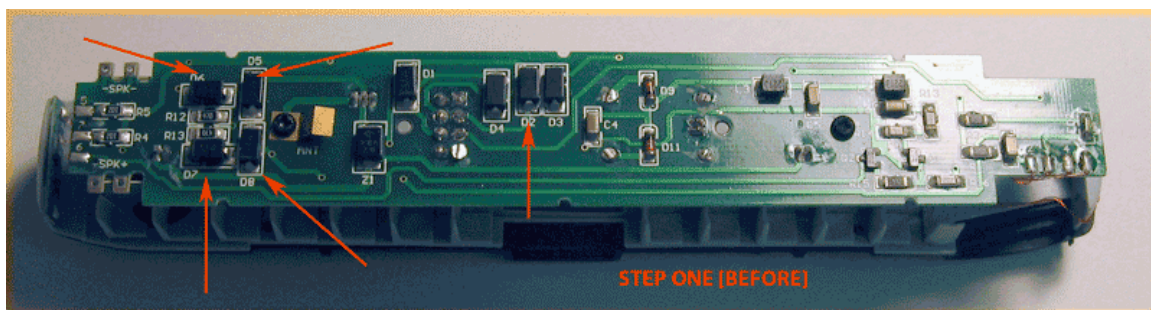

Figure 1 – Top of Circuit Board
1. Remove the surface mounted components labeled D5, D6, D7 and D8 from the rear of the circuit board and remove the surface mounted component labeled D2 from the middle of the circuit board. Figure 1 shows the top of the original circuit board before any modifications.